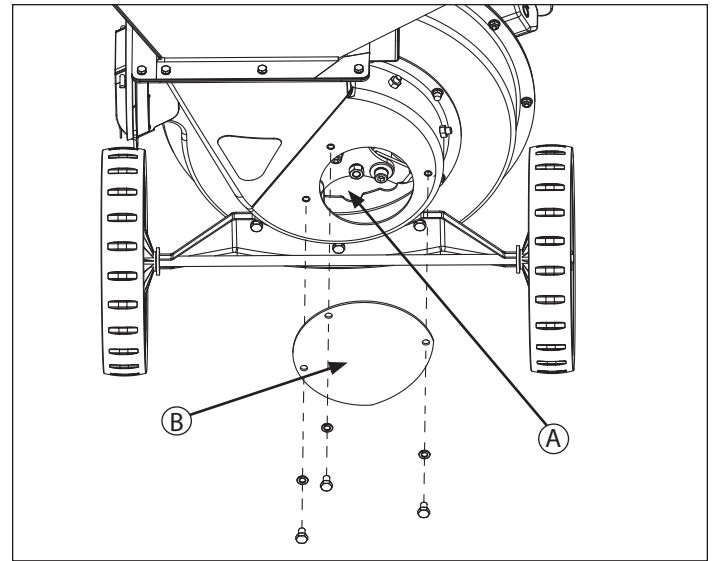

FIGURE 9 - Inspect / Rotate Shredding Hammers
2. Remove the small circular access panel (B) from the back of the shredder housing. **SEE FIGURE 9**
3. Inspect the cutting edges of the triangular hammers (A) and J-hammers (A). **SEE FIGURES 9 AND 10**